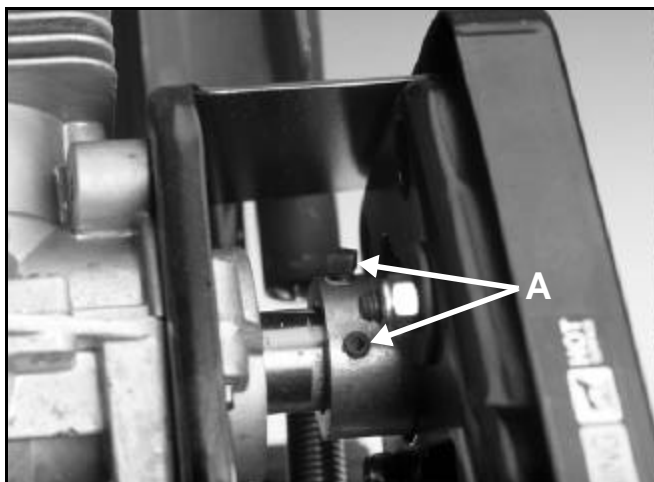

Figure 55 1854-02
9. Remove the belt cover and roll the belt off the engine pulley. Loosen the 2 set screws, remove the engine pulley and key (Figure 55).